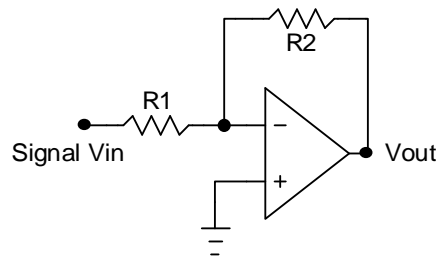

Figure 3. Inverting amplifier circuit
- Construct the inverting amplifier circuit shown in figure 3. Choose the resistors R1 and R2 such that the gain of the amplifier is around -5. The smallest resistor in this pair should be at least 1K. Measure the exact resistor values. Based on the measured resistor values, estimate the gain.